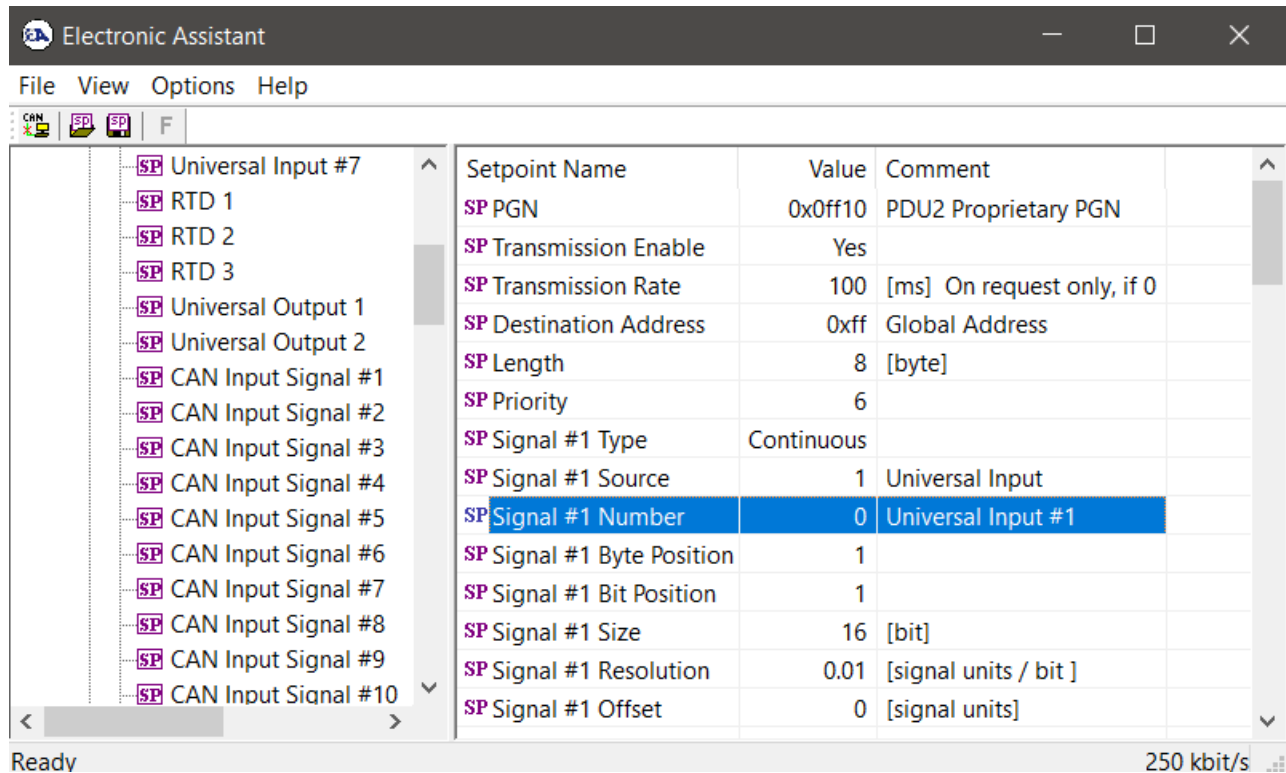

Figure 10. CAN Output Message #1 Example Configuration
Now configure CAN output messages. Configure *CAN Output Message #1*. First set common parameters to all CAN output signals. Set *PGN* to 65296(0xFF10), *Transmission Enable* to “Yes”, *Transmission Rate* to 100 ms. Keep default values for *Length* (8 bytes) and *Priority* (6), see Figure 10.